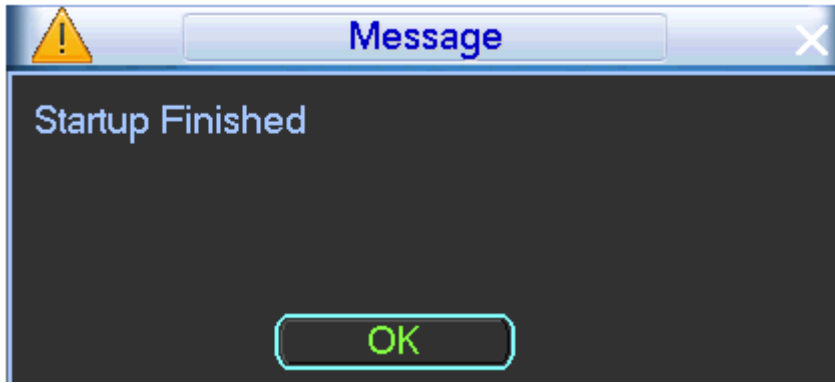

Figure 4-12
Step 11 Click Finish button, system pops up a dialogue box. See Figure 4-12.